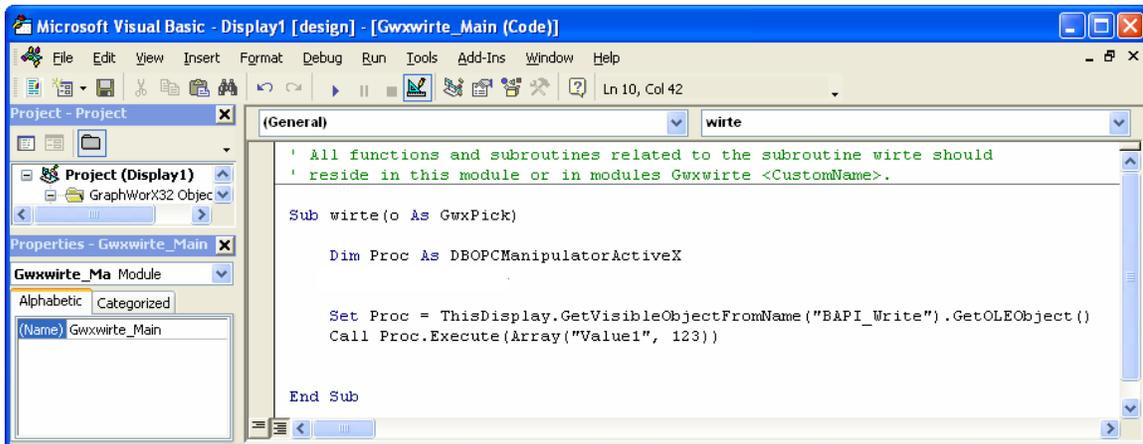

Figure 16: VB Code for Data Manipulator ActiveX
9. The VBA editor will look like Figure 16 (below). Return to GraphWorX32. Go Runtime and click on the button to test if it will write the string "Value1" and the number "123" to your SAP application.